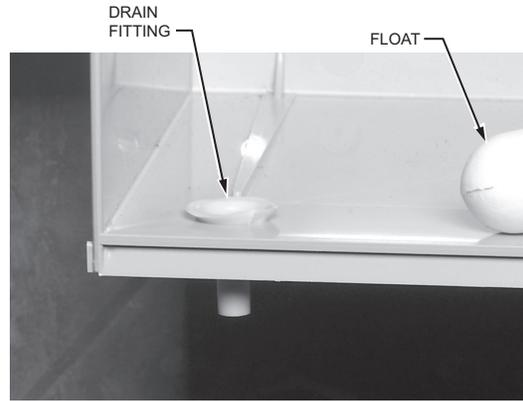

Fig. 27. Installing Drain Fitting.
8. Insert the Drain Fitting into the bottom of the Humidifier on the same side as the Bypass Duct. See Fig. 27.